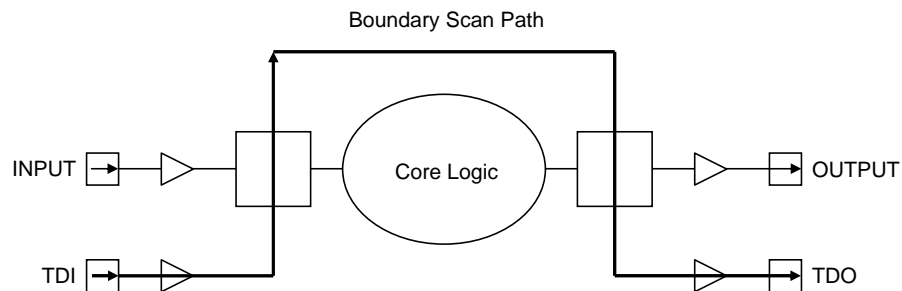

Figure 21.10 Test Data Flow While PRELOAD is Selected
- PRELOAD allows the boundary scan register to be initialized before another instruction is selected. For example, prior to selection of the EXTEST instruction, initialization data is shifted into the boundary scan register using PRELOAD as described in the previous subsection. PRELOAD permits shifting of the boundary scan register without interfering with the normal operation of the system logic. The flow of data for the PRELOAD phase of the SAMPLE/PRELOAD instruction is shown in Figure 21.10.